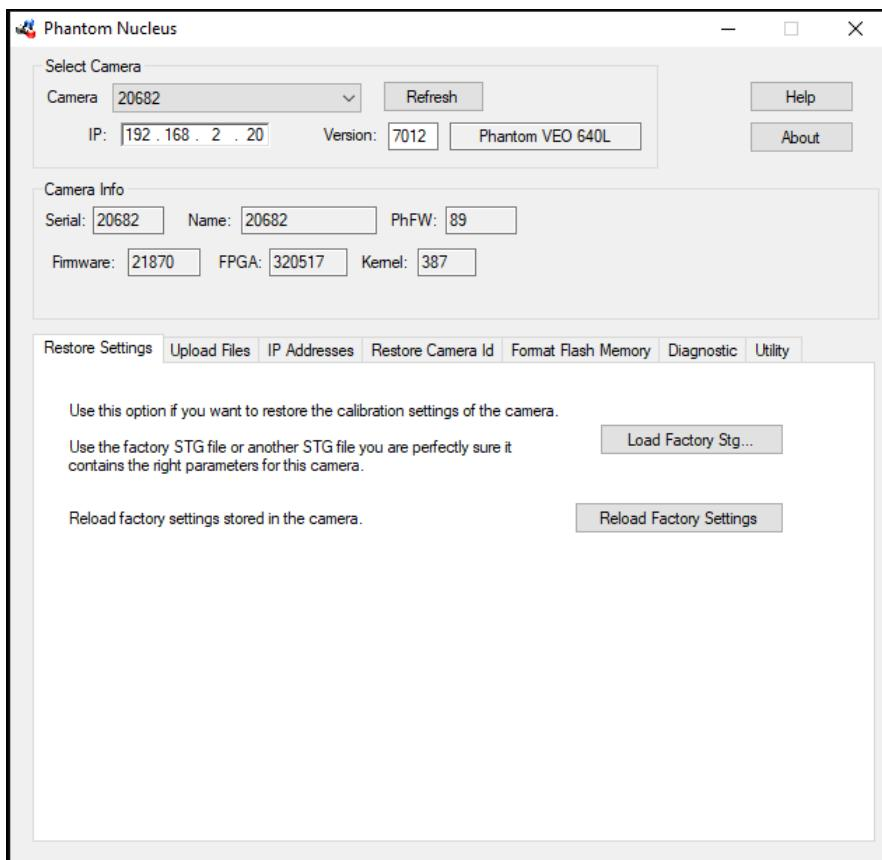

Figure 7.1
6. Select the serial number of the camera you want to reset and click **Reload Factory Settings** (Fig. 7.1).